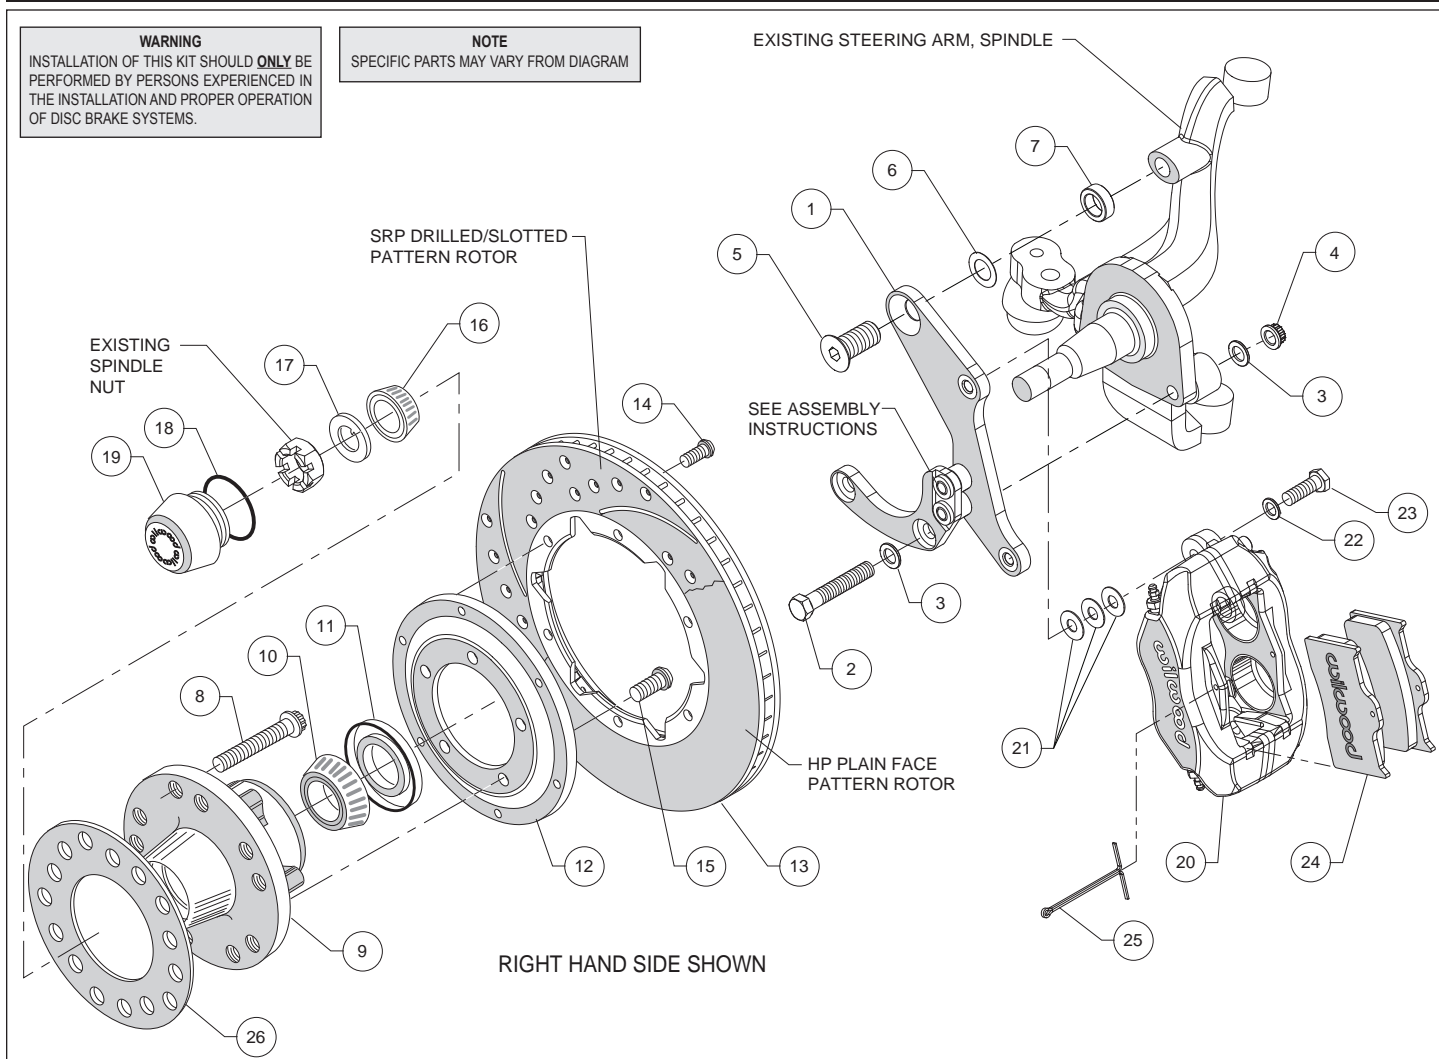
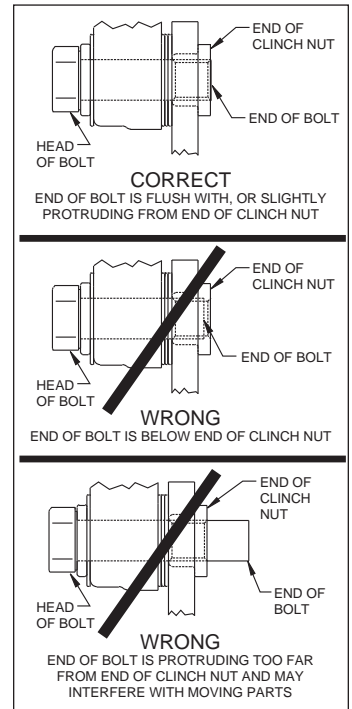

Figure 1. Typical Installation Configuration
Figure 3. Clinch Nut Engagement Diagram
Assembly Instructions (numbers in parenthesis refer to the parts list and Figure 1 on the preceding pages): **CAUTION:** All mounting bolts must fully engage clinch nuts. Be sure to check that all bolts are either flush or protruding through flanged side of clinch nut after shimming, Figure 3.
- The caliper mounting bracket (1) has been assembled at the factory for alignment purposes. Loosen the two bolts that secure the brackets together so that the bolts are hand tight only. This will enable the bracket assembly to be adjusted to accommodate various spindle tolerances during assembly. Align bracket with the two lower holes on the spindle face and attach using bolts (2) and washers (3), and secure using nuts (4), as shown in Figure 1 and Photo 1. Install bolt (5) through top of bracket while placing spacer (7) and shim (6) between bracket and spindle, Figure 1. Initially use one .015" thick shim (6) on the top bolt between the bracket and upright. Temporarily tighten the mounting bolts. Ensure that the flanged heads of the clinch nuts in the bracket are facing outboard, Photo 1. **NOTE:** The bracket must fit squarely against the mounting points on the spindle. Inspect for interference from casting irregularities, machining ridges, burrs, etc.
- Check that the bracket is aligned parallel to the rotor by assembling and installing the hub/rotor per the steps below. If not, adjust by adding or subtracting shims (6) between the spacer (7) and bracket, Figure 1.
- Install the grease seal (11) by pressing into the backside of the hub (9), flush with the end of the hub, Photo 3.
- Orient the rotor (13) and the rotor adapter (12) as shown in Figure 1 and Photo 4. Attach the rotor to the adapter using bolts (14). Using an alternating sequence, apply red *Loctite*® 271 to the threads, and torque to 25 ft-lb.
- Mount the adapter/rotor assembly (12/13) to the hub (9) using bolts (15), as shown in Figure 1 and Photo 5. Using an alternating sequence, apply red *Loctite*® 271 to the threads, and torque to 55 ft-lb.
- Pack the small outer bearing cone (16) with high temperature disc brake bearing grease and install into hub (9). Slide the hub/rotor assembly onto the spindle. Secure using spindle washer (17) and OEM spindle nut, Photo 6. Adjust bearings per OEM specifications. Install saved OEM nut lock (if any) and a new cotter pin (not supplied).
- Screw dust cap (19) into hub (9), Photo 7. Friction created by the o-ring (18) on the dust cap keeps it from unscrewing. **NOTE:** The O.D. of the existing OEM spindle washer may be larger than the I.D. of the dust cap not allowing it to seat against the hub face. Therefore, use the spindle washer (17) supplied with the kit instead of the OEM washer.
- NOTE:** Please reference the caution statement at the beginning of the assembly instructions. Mount the caliper (20) onto the caliper mounting bracket (1) using bolts (23) and washers (22), as shown in Figure 1. Initially place three .035" thick shims (21) on each bolt between the caliper and the bracket, Photo 8. Temporarily tighten the mounting bolts and view the rotor (13) through the top opening of the caliper. The rotor should be centered in the caliper, Photo 9. If not, adjust by adding or subtracting shims between the bracket and the caliper. Always use the same amount of shims on each of the two mounting bolts. **NOTE:** The end of each bolt must be flush with or slightly protruding from the head of the clinch nut, as shown in Figure 3. If necessary place spare shims between washer (22) and caliper mounting ear to achieve the proper clinch nut engagement. Once the caliper alignment and clinch nut engagement are correct, remove the bolts one at a time, apply red *Loctite*® 271 to bolt threads, and torque to 40 ft-lb.
- Install the disc brake pads (24) into the caliper, with the friction material facing the rotor (13), and secure in place using cotter pin (25), Photo 10.
- Temporarily install wheel and torque lug nuts to manufacturer's specification. Ensure that the wheel rotates freely without any interference. **NOTE:** Wheel spacer (item 26) **MUST** be used if any wheel contact surfaces overhang the outside diameter of the hub face. See warning on page 3.